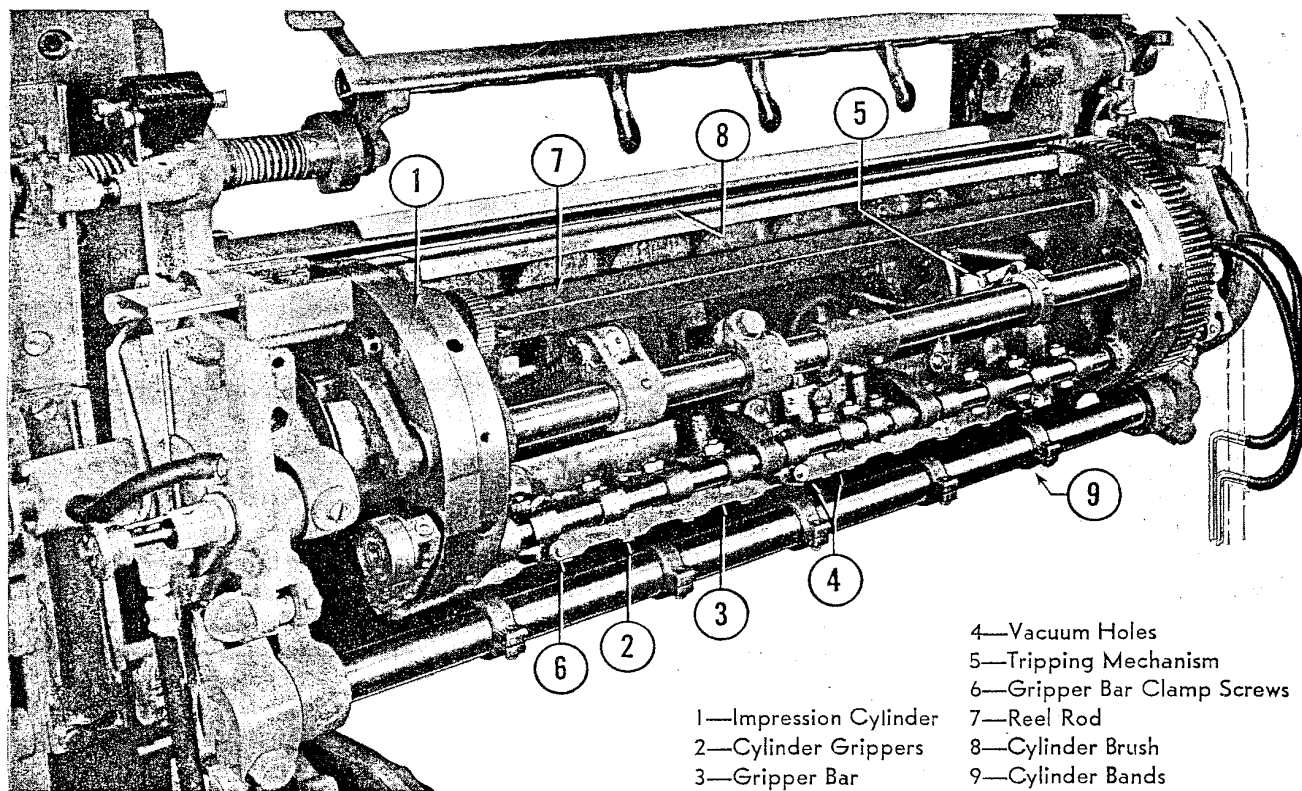

Figure 5—Impression Cylinder
c. IMPRESSION CYLINDER. (See figure 5.)—When the impression cylinder (1) reaches the bottom of its downward stroke, it receives the sheet from the transfer table. During its upward (impression) stroke, the cylinder revolves and the sheet receives the impression from the form on the bed which is travelling in an opposite direction. When the cylinder reaches the top of its upward stroke, it has completed one revolution and does not revolve as the sheet is taken from the cylinder grippers by the delivery grippers. On the downward stroke, the cylinder gap faces the form, clearing all type high matter.